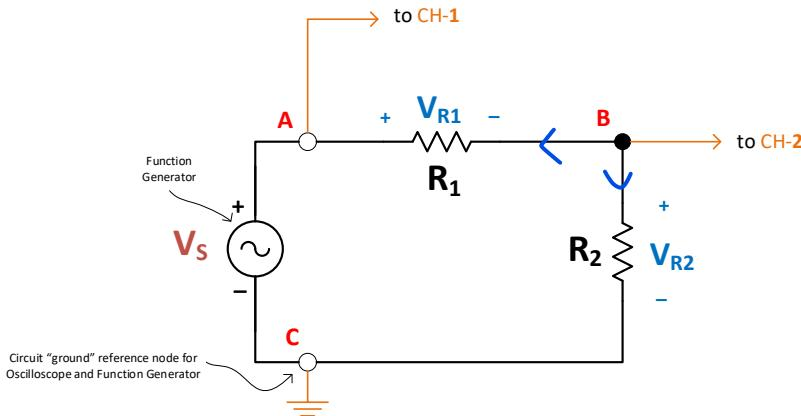

Figure 2.0: Simple AC circuit for *nodal* voltage measurements
- (b) For the simple AC circuit shown in **Figure 2.0**, the resistor values chosen for $R_1 = 3 \text{ k}\Omega$ and $R_2 = 2 \text{ k}\Omega$. The input AC voltage source, V_s is a sinusoidal signal with peak voltage amplitude, $V_P = 5\text{V}$ and frequency, $f = 1000\text{Hz}$. That is, $V_s(t) = 5 \sin(2\pi 1000t + 0)$ volts.
Table 2.0: Theoretical voltage values of Figure 2.0 circuit
(e) Use **MultiSIM** to construct and simulate the circuit in **Figure 2.0**, with resistors $R_1 = 3k\Omega$ and $R_2 = 2k\Omega$. Ensure that *node C* of the circuit is used as the *common ground* for all equipment.
(Note: Unlike the DMM multimeter, the voltage V_{R1} across resistor R_1 cannot be measured directly because the outer conductor of the oscilloscope input channel (and cable) is always connected internally to “ground”, which in turn gets referenced to the “common ground” of a circuit, like the *node C*. If you attempt to directly measure the differential voltage across R_1 with the oscilloscope, then *node B* will get shorted to “ground”, thereby invalidating the circuit’s operation. Therefore, in such situations, you **must use** node voltages (V_A and V_B) to determine the voltage across R_1 . For the circuit in **Figure 2.0**, you should verify that $V_{R1} = V_A - V_B$ and $V_{R2} = V_B - 0$)
Table 3.1: MultiSIM measured values of Figure 2.0 circuit
(b) AC Measurements on the Voltage-Divider circuit (Figure 2.0)
- Construct the circuit of **Figure 2.0** on your breadboard using resistors **R₁ = 3kΩ** and **R₂ = 2kΩ** from your Kit components. Ensure that **node C** of the circuit is used as **the common ground** for all equipment connections.